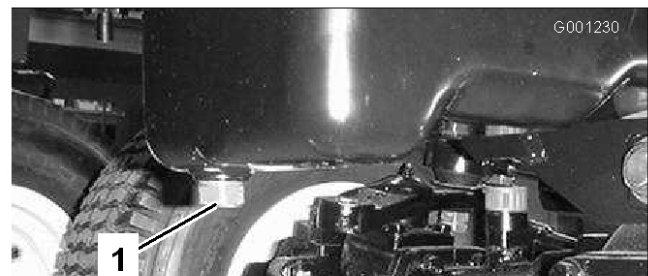

Figure 46
3. Set a drain pan under the oil pan and in line with the drain plug (Figure 46).